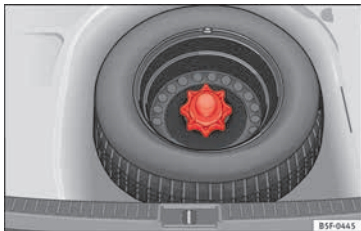

Fig. 242 Compact temporary spare wheel: raised floor panel.
- Lift and hold up the floor panel to remove the temporary spare wheel » **Fig. 242**.